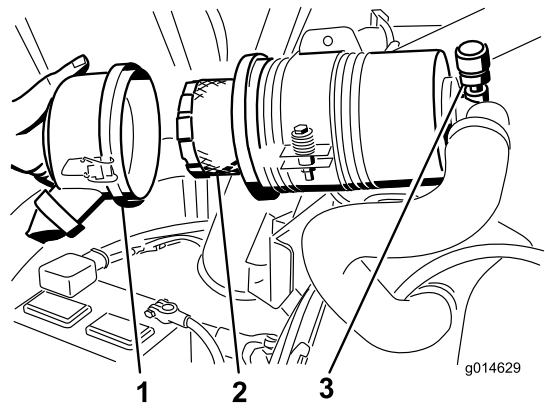

Figure 55
3. Remove and replace the filter (Figure 55).